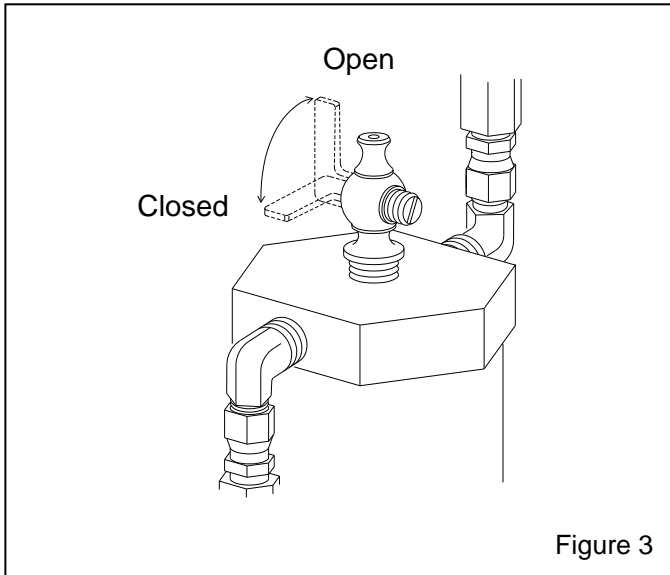

Figure 3
**3.1.3** Make sure that the safety petcock located on the Inlet Valve is open. The petcock is open when the petcock lever is in-line with the petcock, as shown in Figure 3.